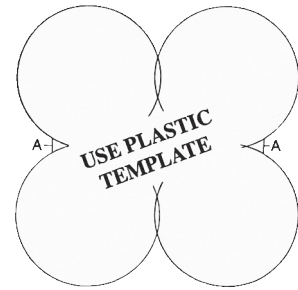

FIGURE 1
2. Using the enclosed drill guide templates, drill four $\frac{3}{16}$ " holes and follow with $1\frac{1}{8}$ " diameter hole saw (See Figure 1). These holes must be $1\frac{1}{16}$ " on center in both directions. Evenly file the points marked "A" until the switch goes comfortably between them. The distance between these points should never exceed $1\frac{3}{4}$ ". We strongly suggest that this first be tried on a practice piece of wood.